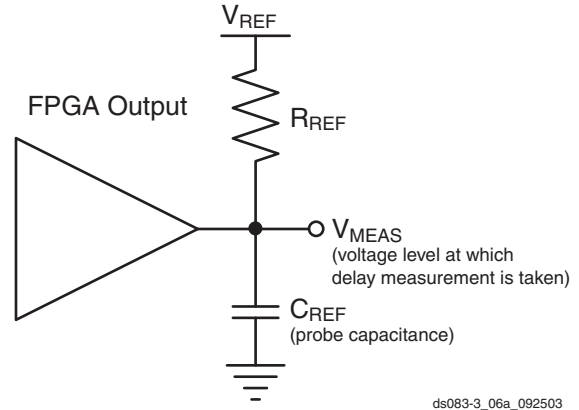

Figure 6: Generalized Test Setup
5. Note that this is an input voltage reference that bears no relation to the V_{REF} / V_{MEAS} parameters found in IBIS models and/or noted in Figure 6.
Output delays are measured using a Tektronix P6245 TDS500/600 probe (< 1 pF) across approximately 4" of FR4 microstrip trace. Standard termination was used for all testing. (See Virtex-II Pro Platform FPGA User Guide for details.) The propagation delay of the 4" trace is characterized separately and subtracted from the final measurement, and is therefore not included in the generalized test setup shown in Figure 6.